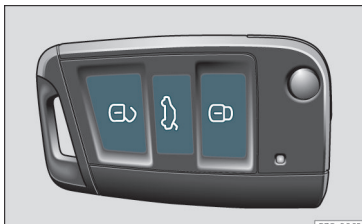

Fig. 69 Remote control key: buttons.
- Lock: press the  **Fig. 69** button.